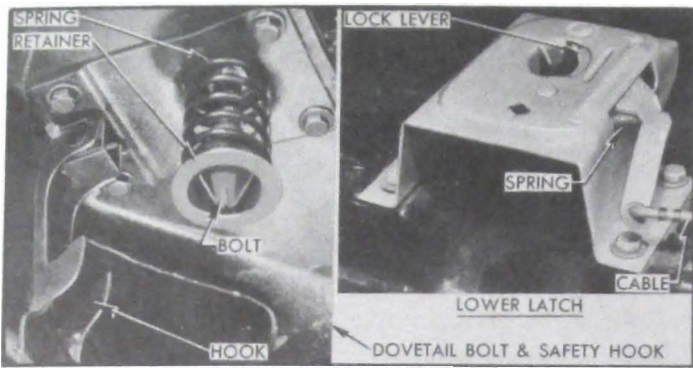

Figure 12-3—Hood Latch and Dovetail Bolt
(2) *Hood Latch Dovetail Bolt.* The dovetail bolt may be turned to move up or down when the locknut on the upper end is loosened. See figure 12-3. The bolt should be adjusted so that the head engages under the lower latch lock lever without excessive vertical play when the front end of hood rests firmly on the rubber bumpers mounted on the radiator grille frame.
the latch to provide proper alignment with the dovetail bolt in hood. See figure 12-3. The latch must be set so that the dovetail bolt enters without sideward strain or other interference. The latch must not be used to force the nose of hood into alignment with fenders as difficulty in unlocking the hood may result. Proper side-wise alignment of hood should be obtained by adjustment of hood hinges.